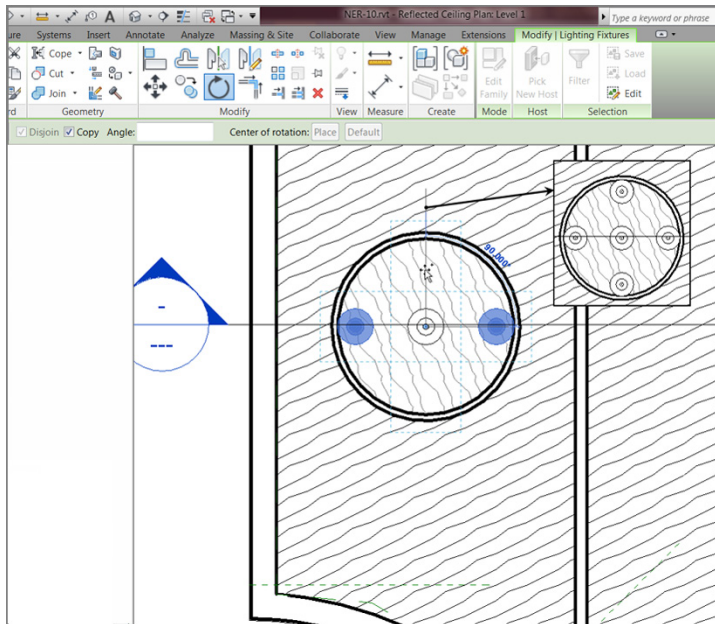

FIGURE 9.37: You're now copying and rotating as if you were in flat, 2D Autodesk AutoCAD® software.
6. Rotate the fixtures 90° to create a total of five fixtures, as shown in Figure 9.37.